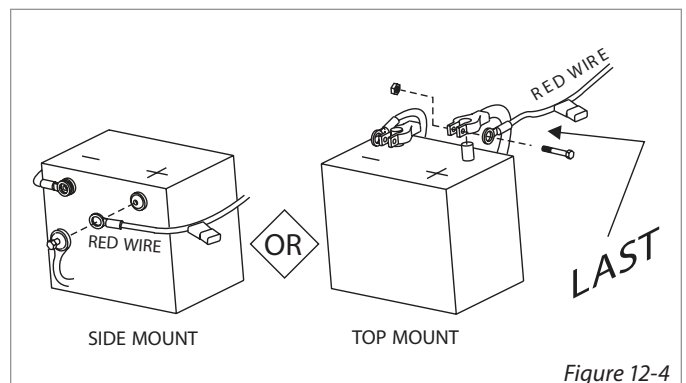

Figure 12-4
7. **Attach red wire to the positive terminal on the battery.** [Figure 12-4]